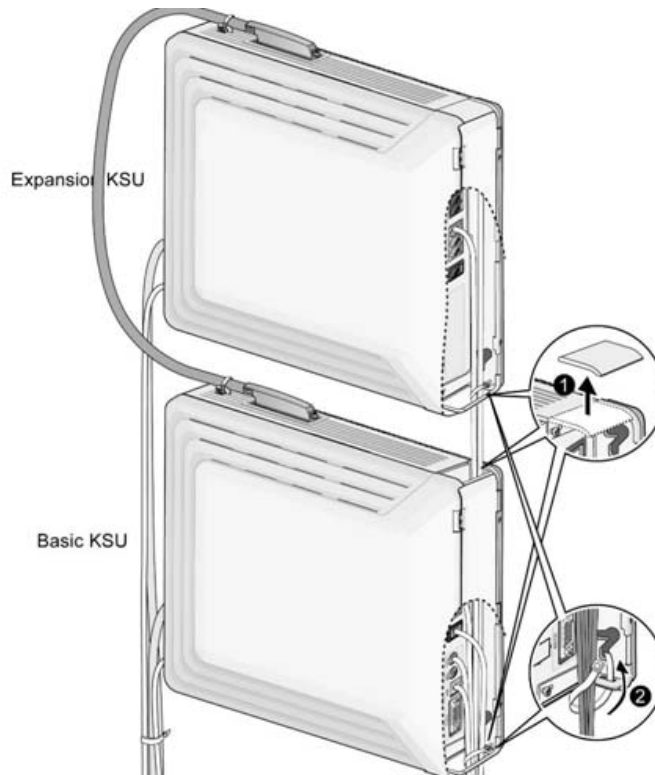

Figure 5-8 Wall Mount Wiring
2. Connect cables to CO/STA and MOH/RS-232C ports, as shown in Figure 5-8.